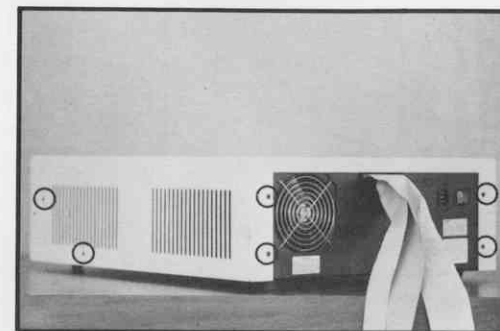

Figure 63 Peripheral Subsystem Unit
Remove four (4) Phillips screws at the back of the Subsystem unit as shown in Figure 63.
4.43 Remove two (2) Phillips screws on each side of the Subsystem unit (Figure 63).